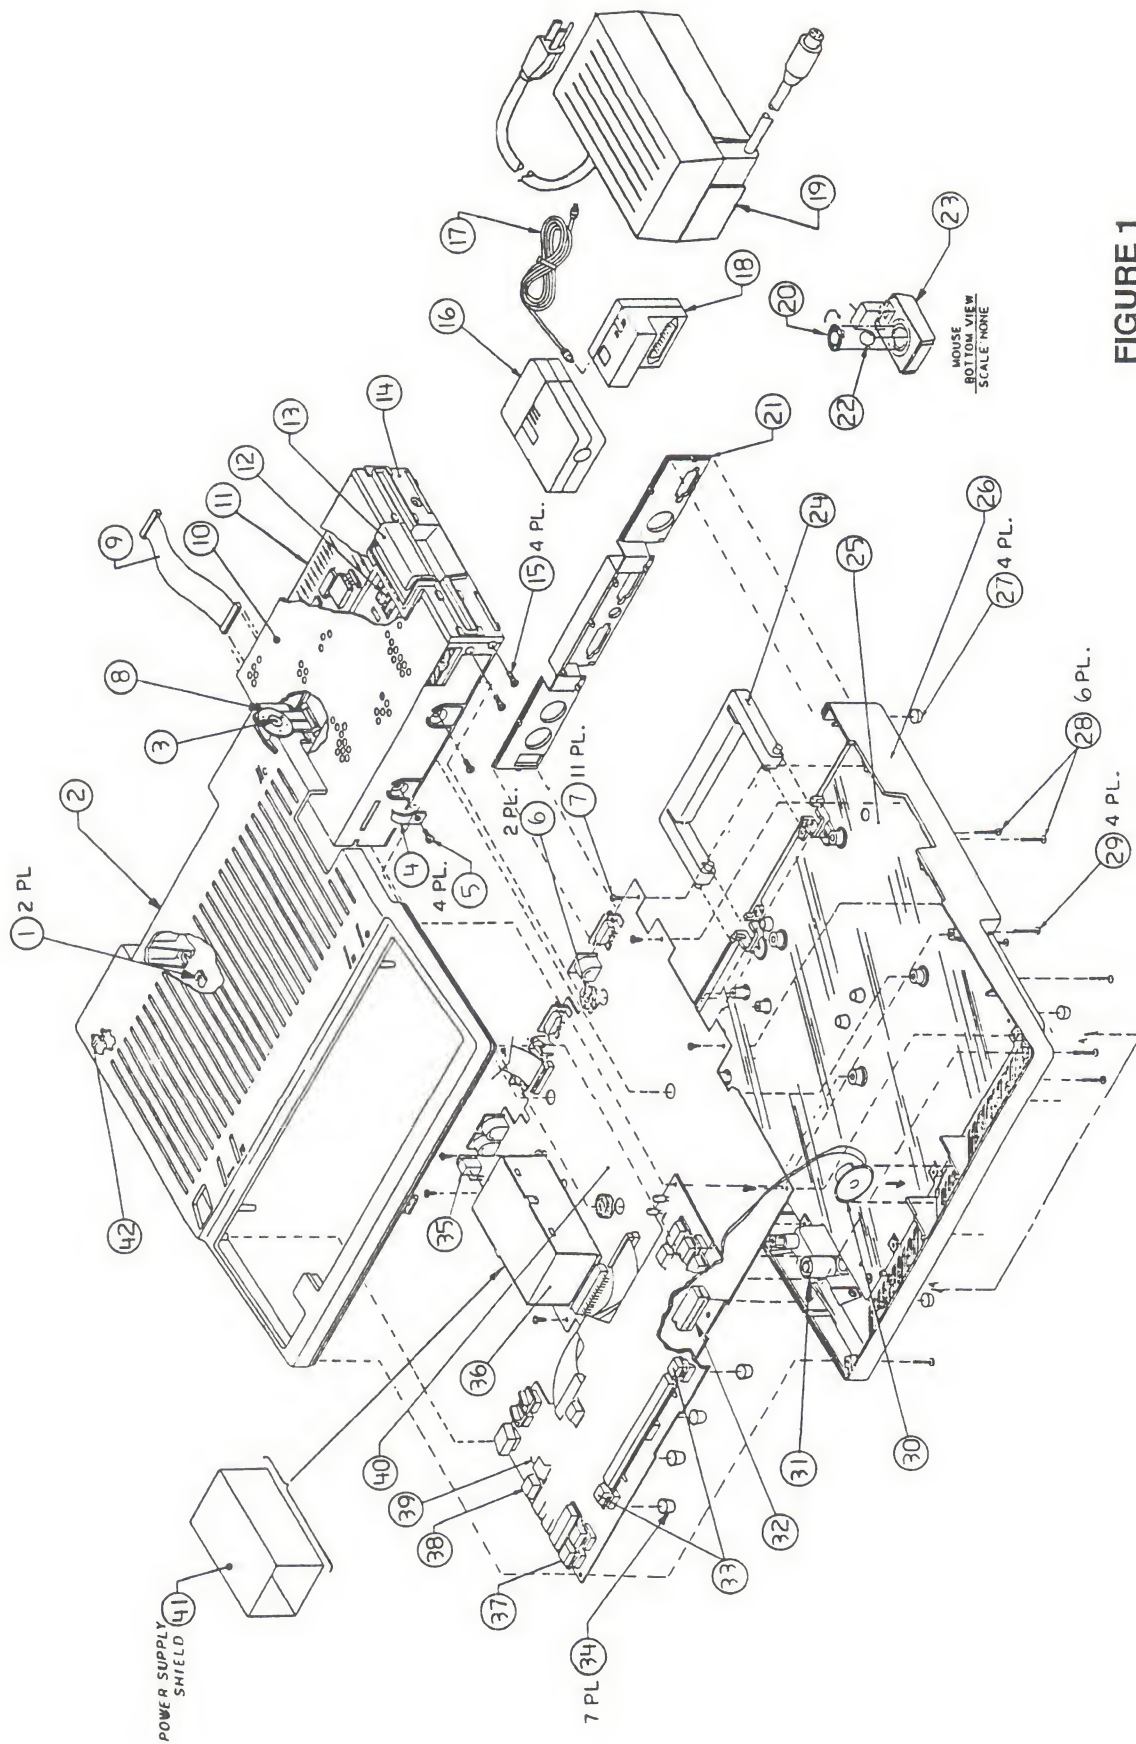

FIGURE 1
- IPL.3    Finished Goods Assembly (Figure 1)
**□ APPLE IIc – FINISHED GOODS ASSEMBLY (Figure 1)**